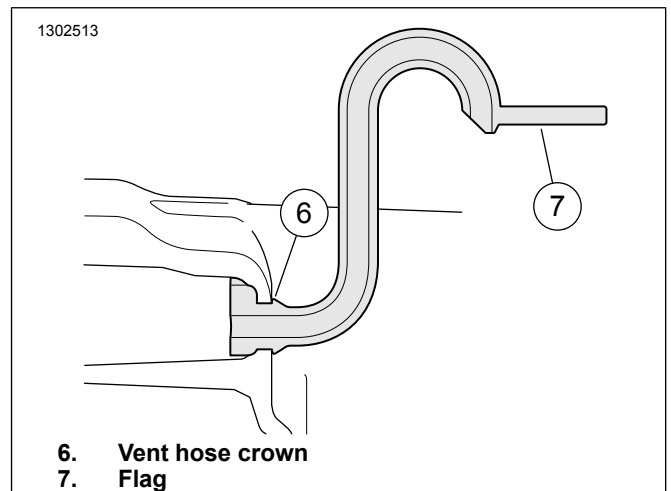

Figure 5. Section View of Vent Hose Installed
- b. See Figure 5. Crown of vent hose (6) should protrude over primary case and locked in place.
4. Cut flag (7) from vent hose.